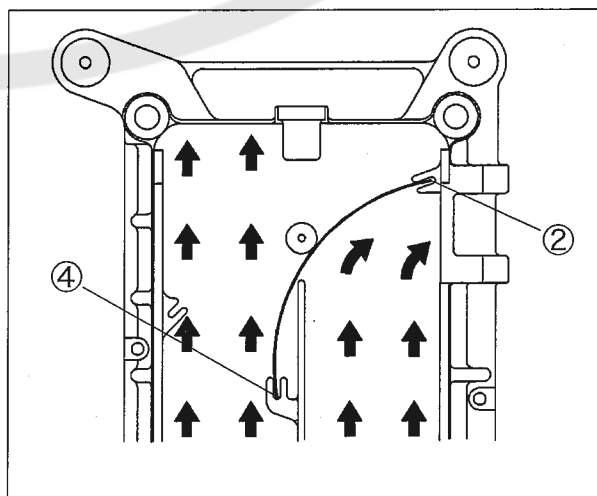

Fig. 3
At high speed and less dust during sewing, insert the air deflector① into the guides② and ④. (See Fig. 3)